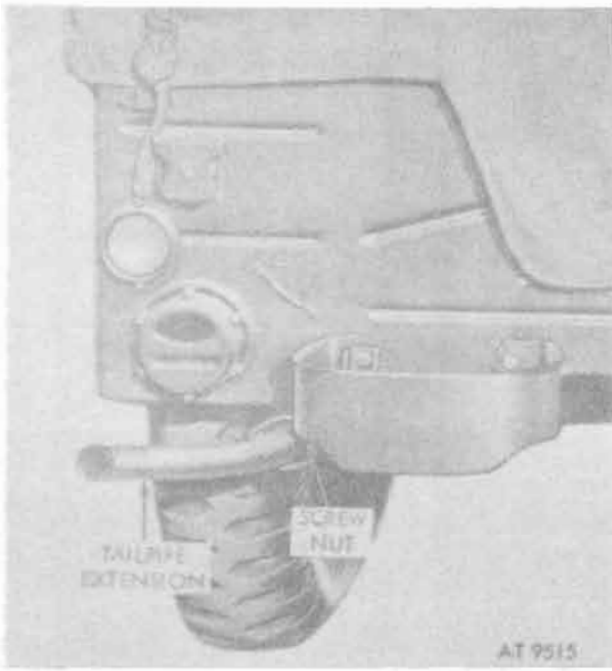

Figure 18-95. Tailpipe extension.
- c. Remove and discard tailpipe extension and attaching parts (fig. 18-95).